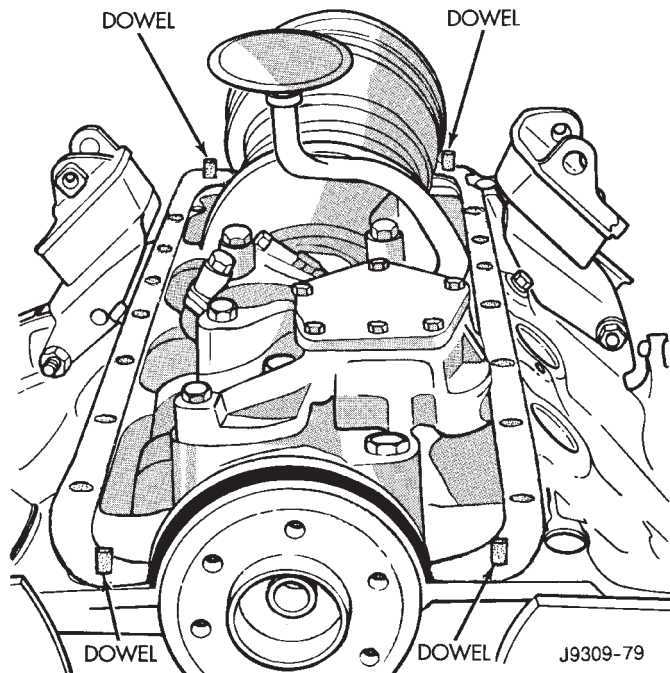

Fig. 38 Position of Dowels in Cylinder Block
- (2) Install the dowels in the cylinder block (Fig. 38).
- (3) Apply small amount of Mopar® Silicone Rubber Adhesive Sealant, or equivalent in the corner of the cap and the cylinder block.
- (4) Slide the one-piece gasket over the dowels and onto the block.
- (5) Position the oil pan over the dowels and onto the gasket. If equipped with an oil level sensor, take care not to damage the sensor.
- (6) Install the oil pan bolts. Tighten the bolts to 24 N·m (215 in. lbs.) torque.
- (7) Remove the dowels. Install the remaining oil pan bolts. Tighten these bolts to 24 N·m (215 in. lbs.) torque.